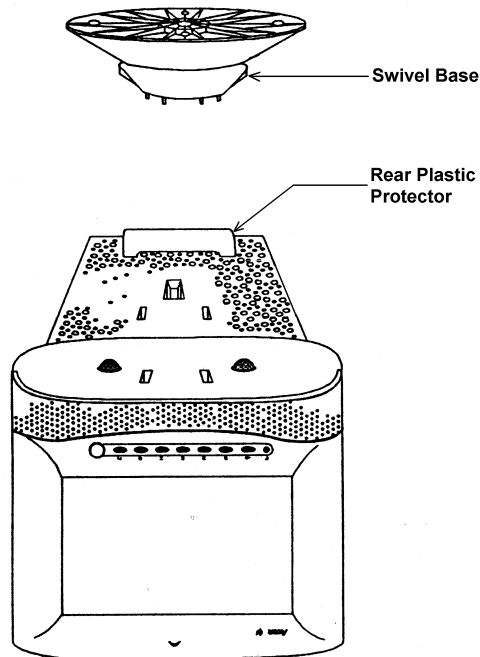

Figure 1, Monitor Bottom View
15. Remove the swivel base and the rear plastic protector from the ACER monitor and discard. Refer to figure 1, below. If you have a Sampo monitor, just remove the swivel base if attached.